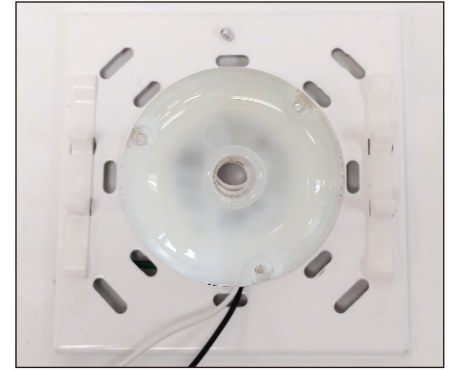

Figure 2
2. Center the DirectAC Engine (A) in the luminaire so that the line voltage cables are aligned with one of the holes found in the luminaire plate. See figure 2.